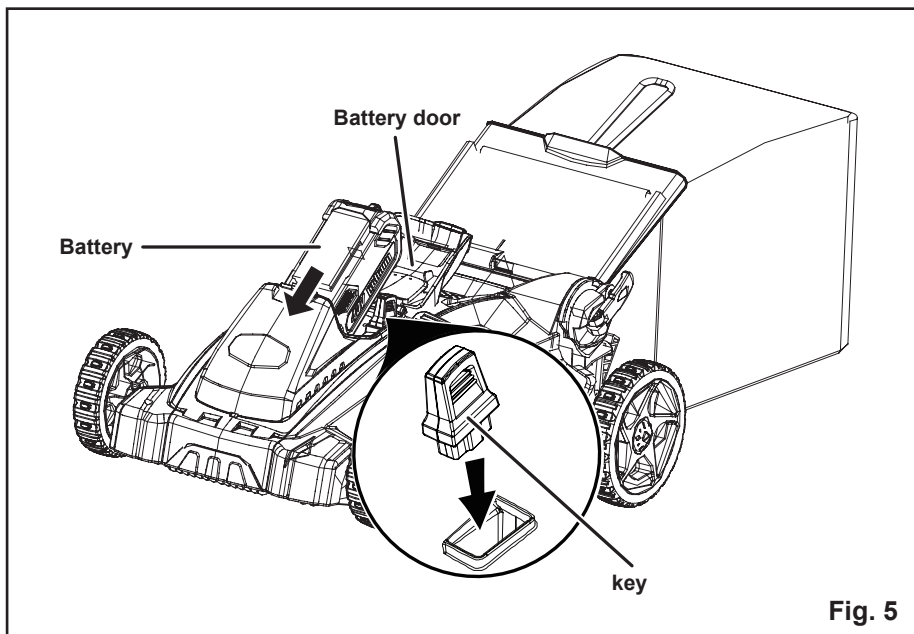

Fig. 5
## TO INSTALL BATTERY PACK (See Figure 5)
## TO REMOVE BATTERY PACK (See Figure 5)
- Open the battery door and insert the key into the slot. (See Fig. 5)